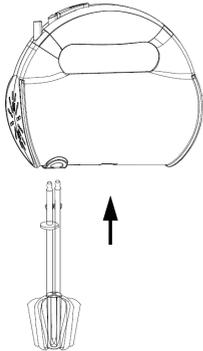

Fig. 1
1. To fit the beaters insert the beaters into the sockets on the underside of the motor housing (figs 1 & 2) and push firmly.